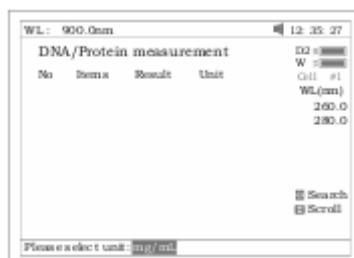

Fig.64
3. Press **【F3】** to select the unit of concentration (Fig 64).